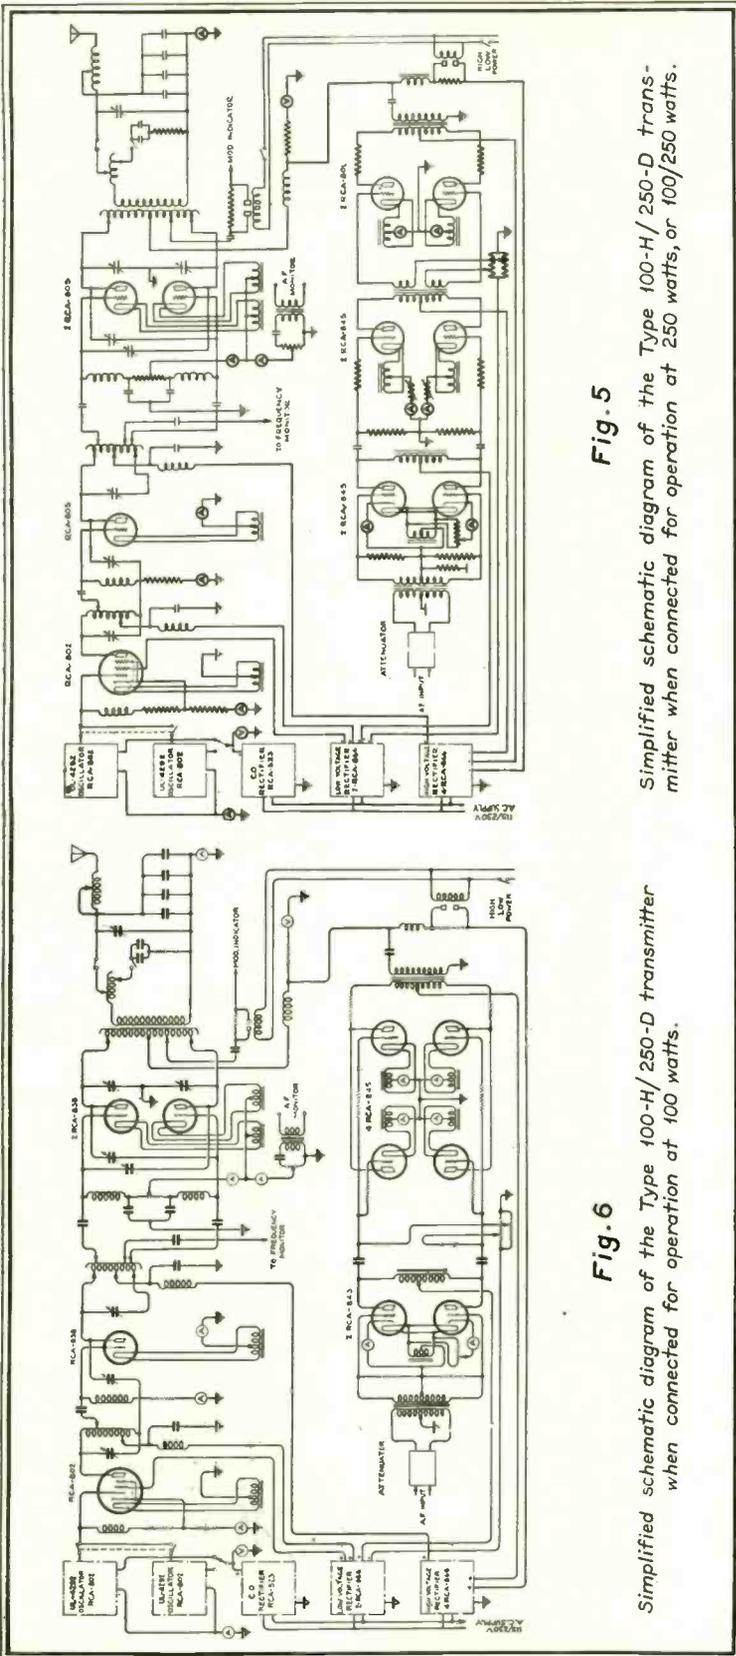

Fig. 5
In the parallel-series arrangement shown in Fig. 5 the two stations in each pair are connected in parallel and then the pairs connected in series. The parallel connections are made unbalanced to ground and then connected in series in opposite manner as shown, to provide an output which is balanced to ground. Application of equation (5) yields the following values:  $R$  equals 250 ohms;  $Z_2$  equals 375 ohms;  $R'$  equals 750 ohms;  $Z_2'$  equals 500 ohms.
As previously noted, this transmitter is adapted for three modes of operation. The changes from one to another are somewhat, but not greatly, more complicated than in the simplified transmitter. The connections for 250-watt, or 100/250-watt operation are shown in Fig. 5. As will be noted, the tube complement and the circuits are quite similar to those of the 250-G transmitter. However, two complete oscillator units, are furnished. The driver audio stage is also of larger capacity, the reason for this being noted hereafter. The connections for 100-watt operation are indicated in Fig. 6. As in the previously described transmitter, the change in the power amplifier consists simply in replacing the 805's with a pair of 838's. In the modulator stage the change consists of combining the driver and output stages (of Fig. 5) to form a single modulator stage using four 845's in push-pull parallel. Sockets, filament voltages and transformers remain the same—the only connection changes required being paralleling of the grid and plate connections.